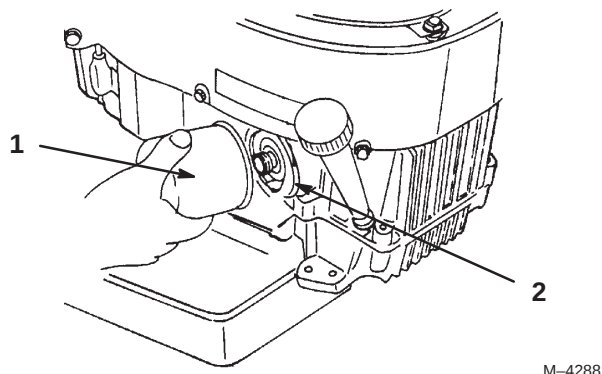

Figure 42
2. Remove the old filter (Fig. 42).
3. Apply a thin coat of new oil to the rubber gasket on the replacement filter (Fig. 42).
4. Install the replacement oil filter to the adapter. Turn the oil filter clockwise until the rubber gasket contacts the filter adapter, then tighten the filter an additional 3/4 turn (Fig. 42).